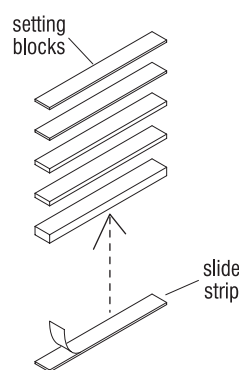

Figure 3
5. Once appropriate number of setting blocks is decided, locate the slide strips. Remove the backing from the adhesive side and attach one to each of the bottom blocks on the side that rests on the floor channel. These strips help the panels become more movable while on the setting blocks (Figure 3).